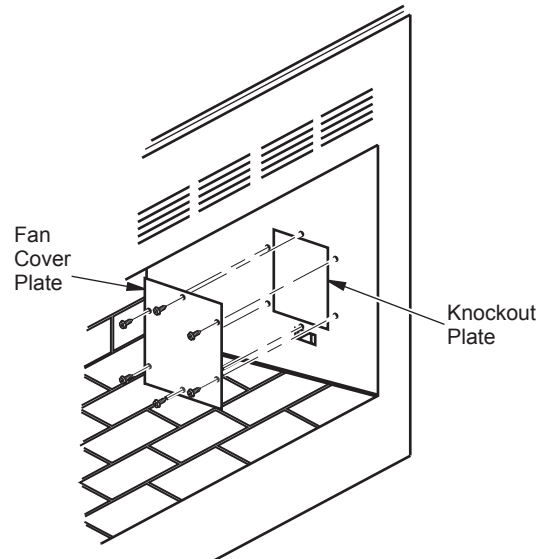

Figure 6
2. Remove blower cover plate (see Figure 6).